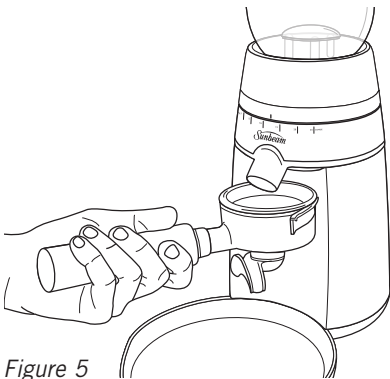

Figure 5
9. Position the group handle into the group handle locator, see figure 5.